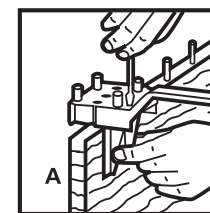

Figure 8
- Place the jig and angle piece assembly over any one of the dowels in the edge of board A. Slide in the angle piece against the board and tighten the screws. Ensure the slot in the angle piece is aligned with the hole you have made. See Figure 8.